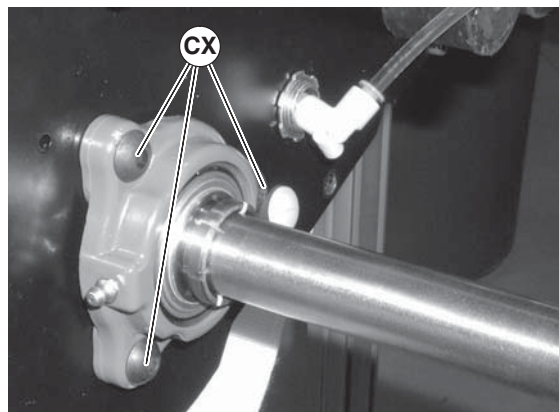

Figure 89
6. Tighten three (3) mounting screws (Figure 89, item CX) to 200 in-lbs (22.5 N-m).